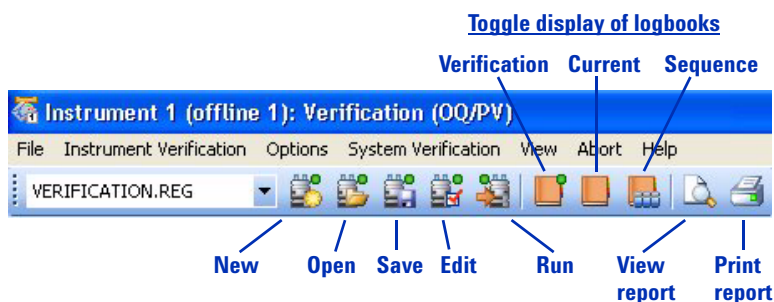
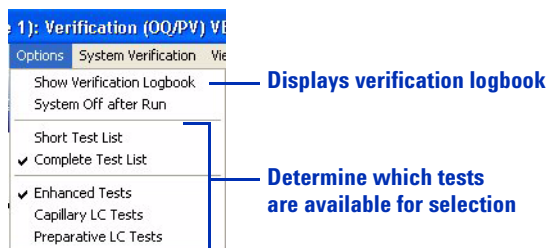

Figure 56 Tools to work with instrument verification
Figure 58 These options control the types of tests that you can select for instrument verification.
- Use the Verification Toolbar, shown in Figure 56.
The Options menu, shown in Figure 58, determines the specific set of tests that are available at any given time.
You can open the verification logbook from either the Verification Toolbar or the Options menu, as shown in Figure 56 and Figure 58.